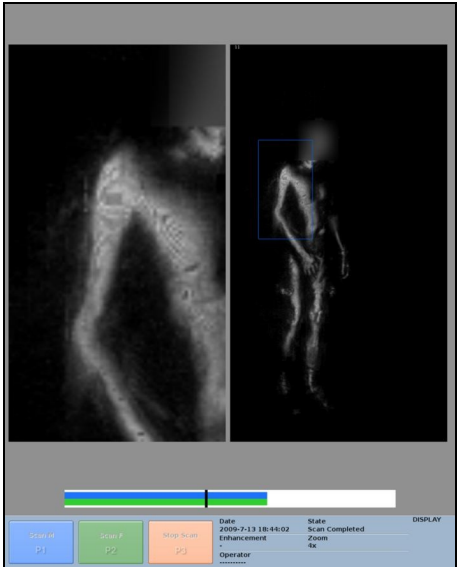

Fig. 21: Image display with activated zoom
Selecting either **P1** or **P2** begins the screening process. This initiates the image capture. Fig. 21 shows the main screen.
- ▷ Instruct the person to turn in slow motion through 360 degrees with their arms raised (as shown in Fig. 21).
When the magnifying glass key  is pressed the screen splits in two as shown in Fig. 21.